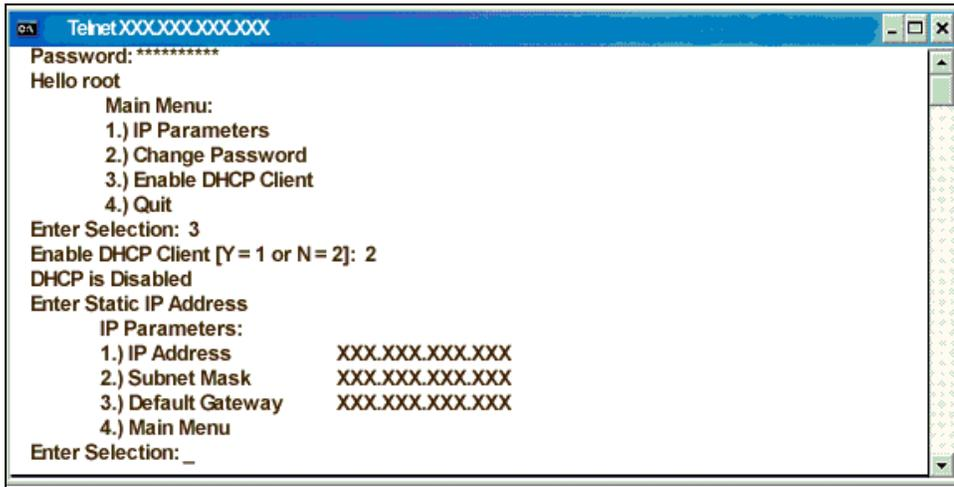

Figure 1-5. DOS Configuration Utility Screen – Don't Enable DHCP Client
You will be prompted to enable the DHCP client with a YES (1) or disable it with a NO (2). Type 2 to disable the DHCP Client and press the *Enter* key. After a few seconds, the following screen (Figure 1-5) is displayed.